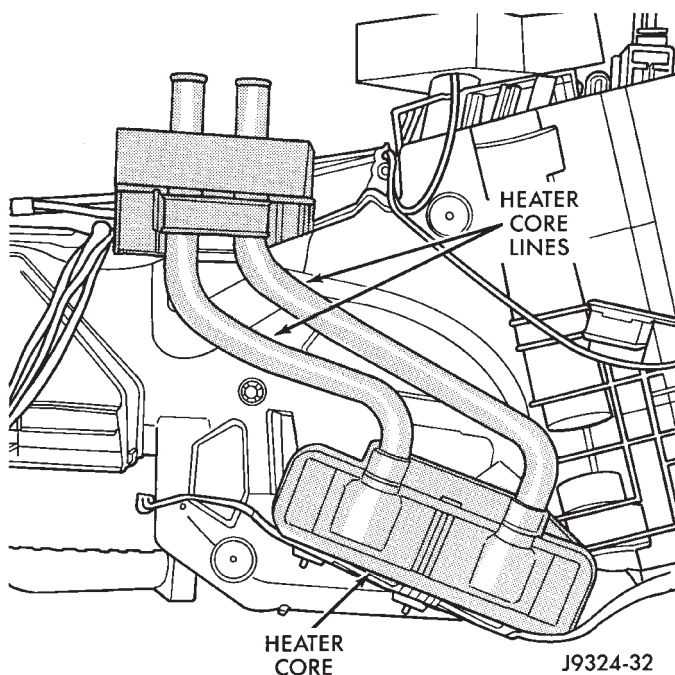

Fig. 14 Heater Core
(1) Remove the heater-A/C unit from the vehicle (refer to Heater-A/C Unit Removal).
(2) Remove the heater core retaining screws.
(3) Pull the heater core straight out of the housing (Fig. 14).